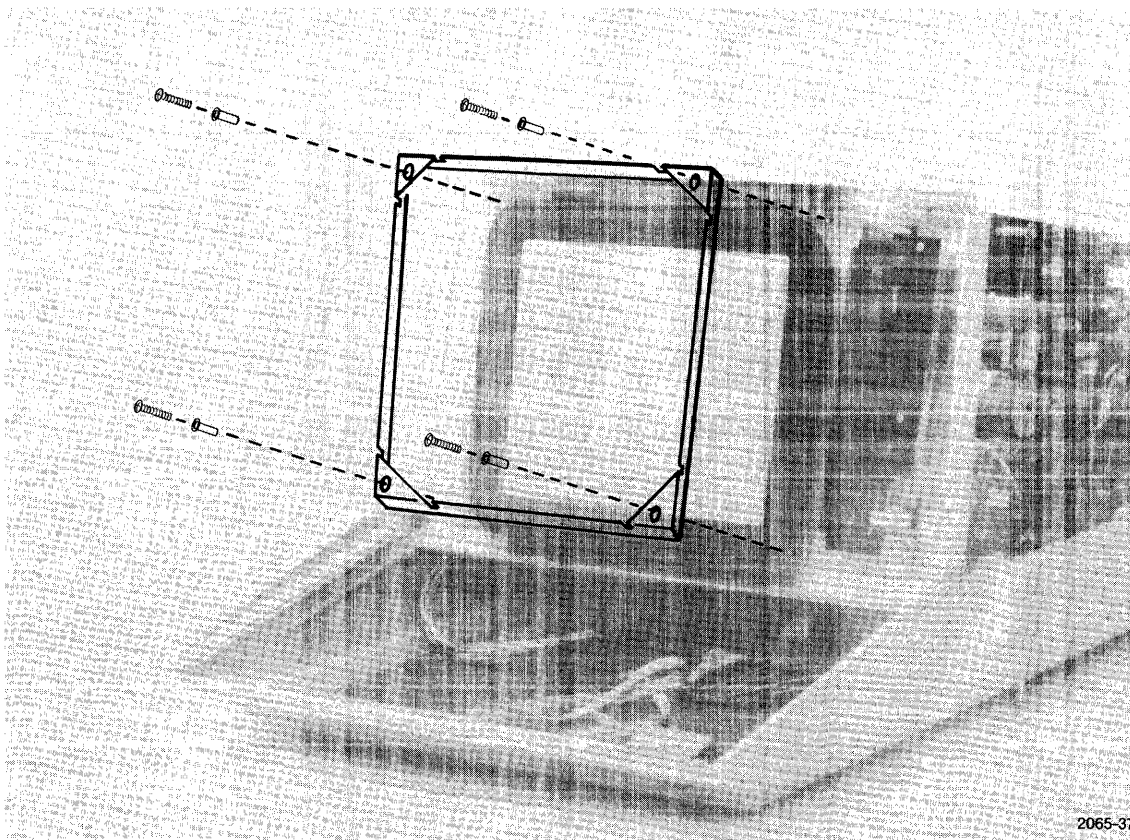

Fig. 3-19. Removing the crt faceplate mounting frame.
5. Remove the four screws from the frame that holds the face of the crt in place. Then remove this metal frame (Fig. 3-19).